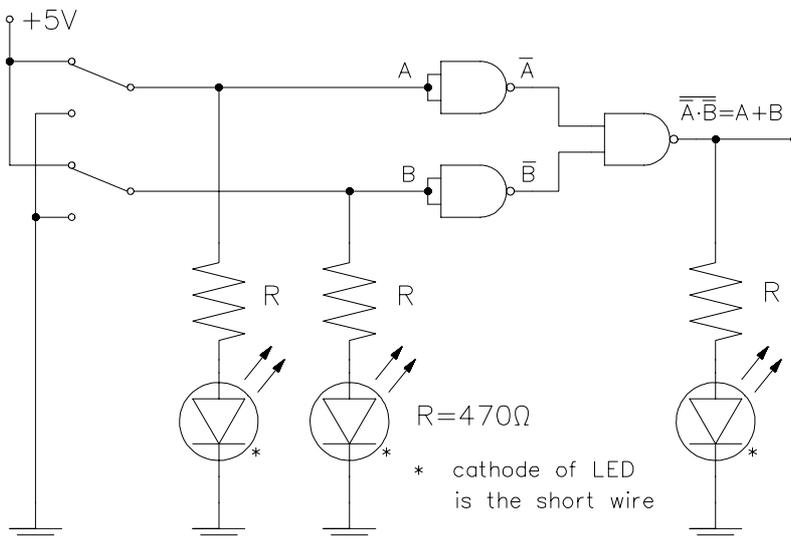

Figure 2.2: An OR gate made from NAND gates
In the example shown in Figure 2.2 three NAND gates form an OR gate. The LEDs on this diagram monitor the state of the inputs and the output. Each one is connected in series with a current-limiting resistor R .
- ❗ Include in your report the Boolean explanation as done in the OR example, Figure 2.2.